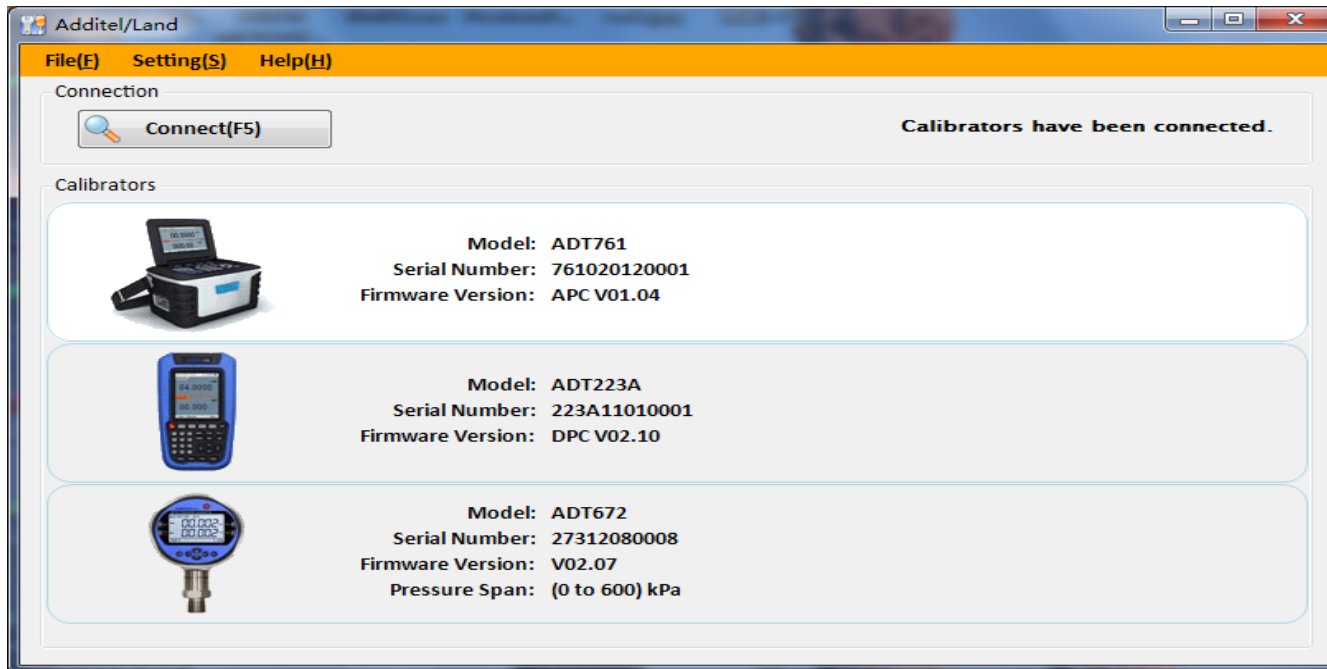

Figure 4.1
Figure 4.1 below, is the system's **HOME SCREEN**. This is the main screen you work from when you are using Additel/Land. It has the buttons and menu items used to activate every other branch and/or function of the system. An overview of this screen's sections is provided below. However, for more detailed information on any of the items mentioned, please refer to the pages dedicated to those topics in the other sections of this manual.
- To scan the calibrators connected with the PC by clicking the **Connect (F5)** box (or press the **F5** on the keyboard), you will see calibrators in the list on the bottom of the **HOME SCREEN**, and the message of “**Calibrators have been connected!**” on the right top of the **HOME SCREEN**. See figure 4.1 below.
This is the large section of the **HOME SCREEN** with the calibrators supported by Additel/Land. See figure 4.1 above.